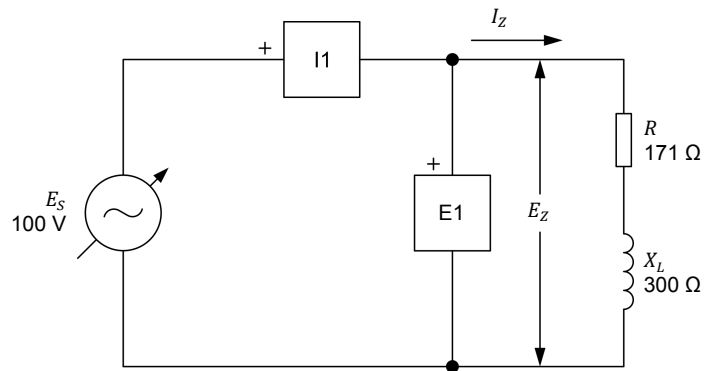

Figure 2-18. Series ac circuit containing a resistor and an inductor.
26. Set up the circuit shown in Figure 2-18.